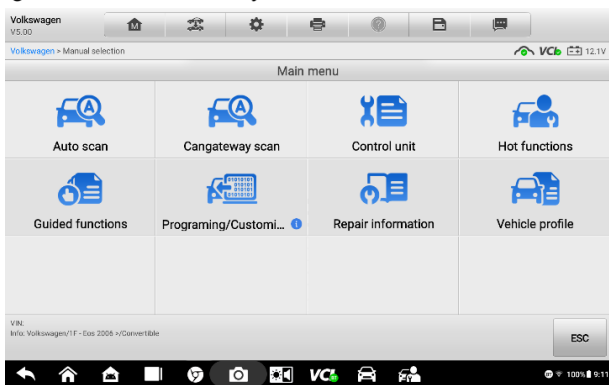

Figure 4-2 Vehicle Diagnostics Screen
5. Tap **OK**. The vehicle will be identified in a few seconds, and once the vehicle information is confirmed, the system will guide you to the Vehicle Diagnostics screen directly. (See Figure 4-2 Vehicle Diagnostics Screen.)